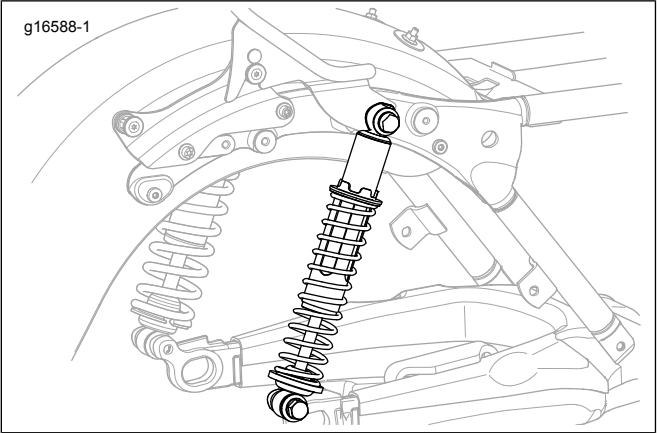

Figure 2. Shock Absorber Orientation with P&A Detachables
*** If interference is encountered at the shock absorber mounts:** Remove the right side shock absorber. See the service manual. Reinstall the shock absorber in the rod down position. See Figure 2. This will allow the necessary clearance for sissy bar installation. If fitment issues continue, contact a Harley-Davidson dealer for assistance.